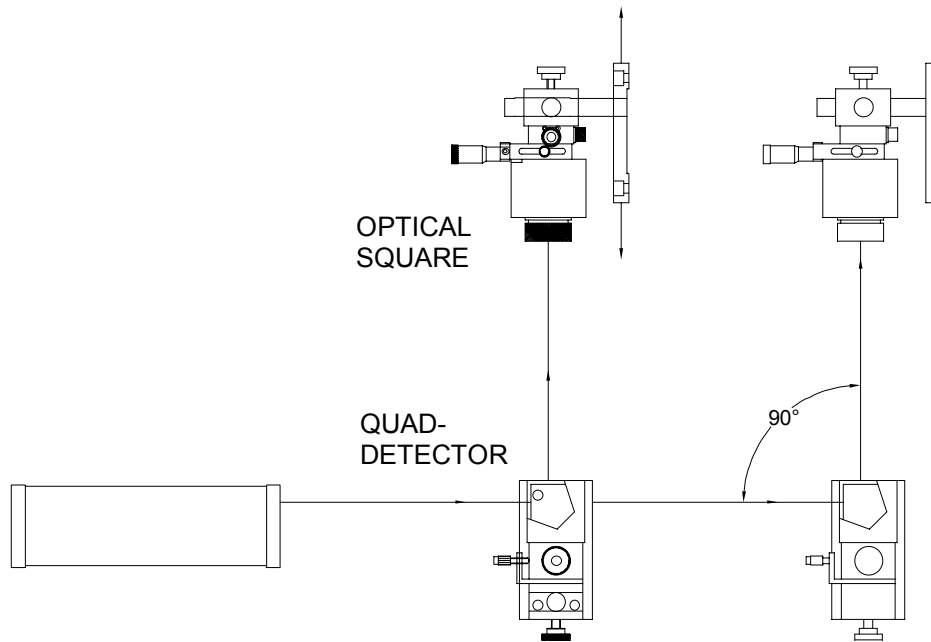

FIG. 10-6 PARALLELISM MEASUREMENT SETUP
6. A parallelism measurement consists of two parallel straightness measurements made from the same laser beam. Parallelism is achieved by using an optical square at two different locations as shown in Fig. 10-6. Parallelism is calculated by comparing the slopes of the two straightness measurements.